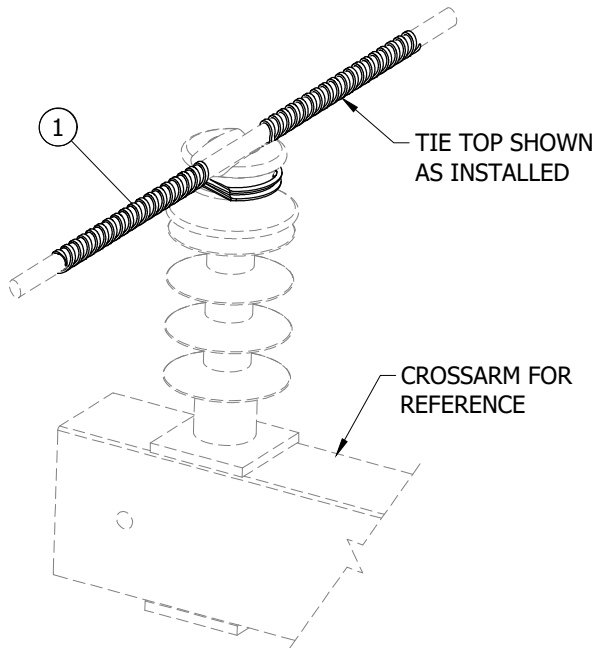

FIGURE 2
A. TO ACHIEVE A DOUBLE TIE AS SHOWN IN **FIGURE 2**, TWO SINGLE HELICAL TIES ARE INSTALLED IN OPPOSITE DIRECTIONS.